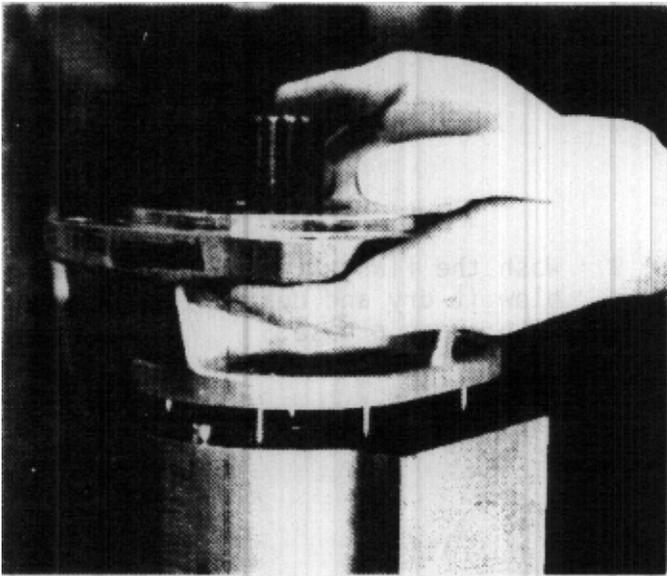

FIGURE 108
2. Loosen and remove nuts and washers holding the flange plate onto the motor body. Lift the flange up and off the shaft. Remove the o-ring from its groove. (Fig. 108).